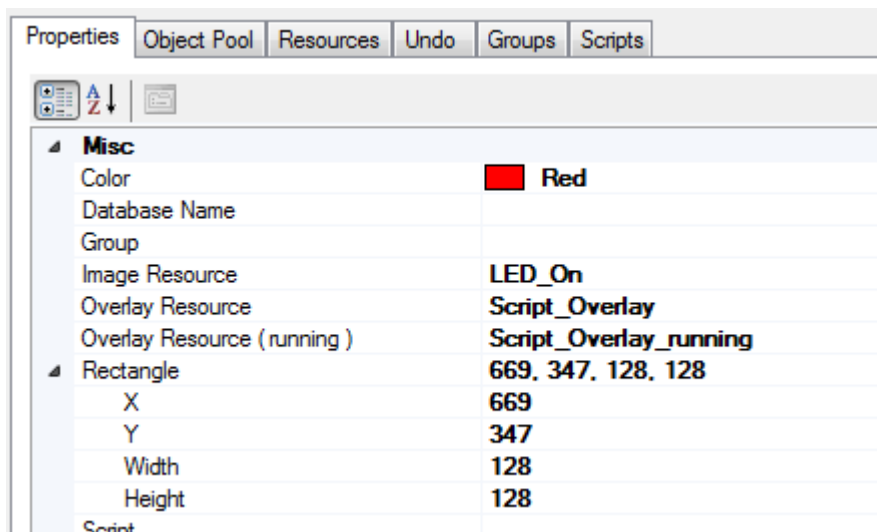

Figure 3-24. Properties of selected object
- To change the initial dimensions of the grid, select the **Properties** tab, see Figure 3-24.
The **Properties** tab of the currently selected object (an “item”) shows the information about the graphical container as well as the hardware references and resource usage, see Figure 3-24.
4. To check the properties of the default object, select the **Properties** tab (see Figure 3-24) and recognize the missing *Database Name* that controls the hardware assignment.